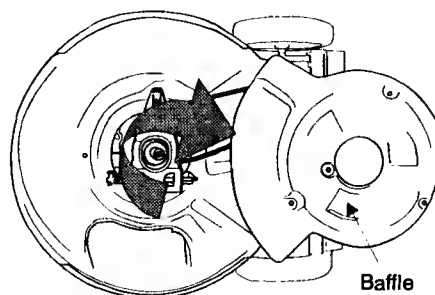

Figure 19
7. Pivot baffle towards the rear of the mower. See figure 19.